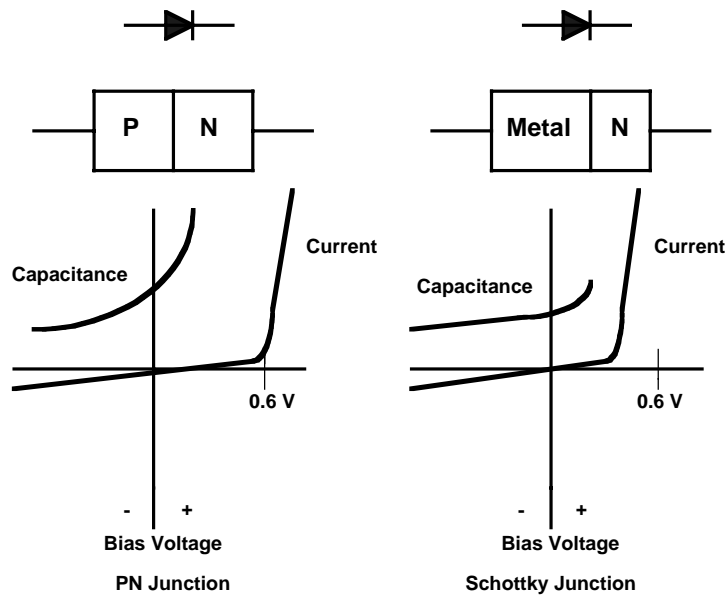

Figure 4: Current and Capacitance versus Voltage for PN Junction and Schottky Diodes
- V_f : The barrier potential which must be overcome before the diode conducts in the forward sense. P-Ns have a higher barrier than Schottky Diodes. For battery-powered applications a lower voltage drop can imply longer battery times. Also voltage levels in battery-powered circuits are generally dropping and the margin between logic high and low is dropping. A voltage drop of 0.6 V may have a significant effect on whether a signal will be read as high or low. Schottky Diodes with a potential of 0.3 V typically have a big advantage in this regard. For example, the wireless modem amplifier shown in Figure 4 can keep a tighter margin on the voltage it is limiting across its gain resistor.